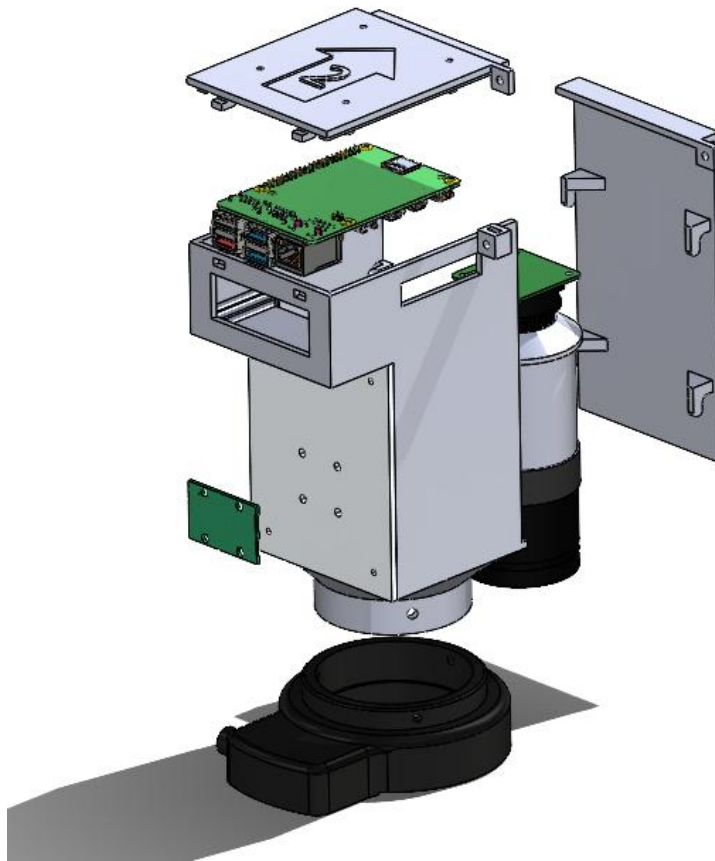

Figure 5: Camera carriage assembly; exploded view
5. Finally, attach the Upper Enclosure Cover to the Enclosure Base and secure them with the Front Enclosure Cover. Refer to Figure 5 for an exploded view of these steps and Appendix A.2 for a detailed list of fasteners.